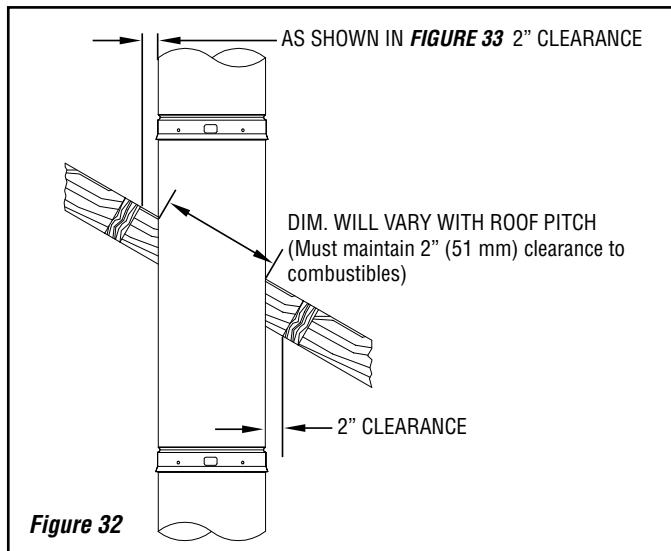

Figure 32
- Install the next SP chimney section through the roof. See **Figure 32**.